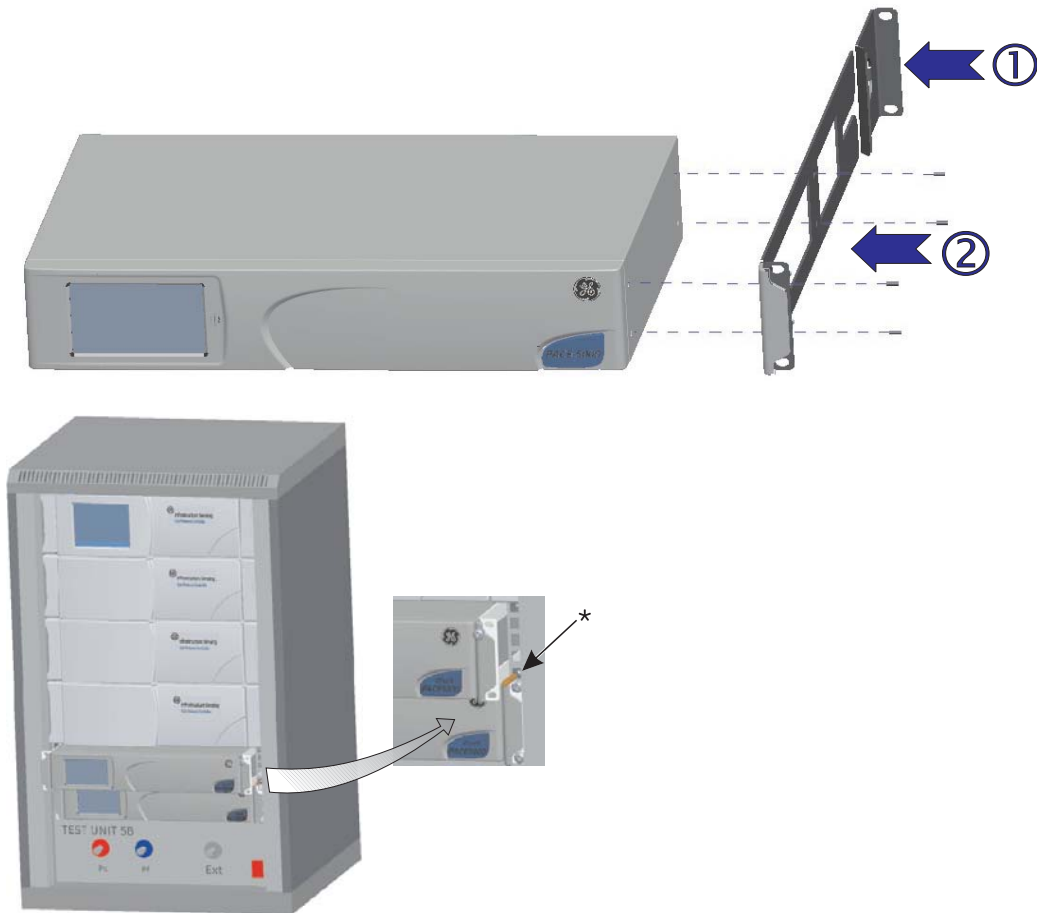

Figure 2-6 Rack-mounting
2.5 Rack-mount option (Ref: Figure 2-6)